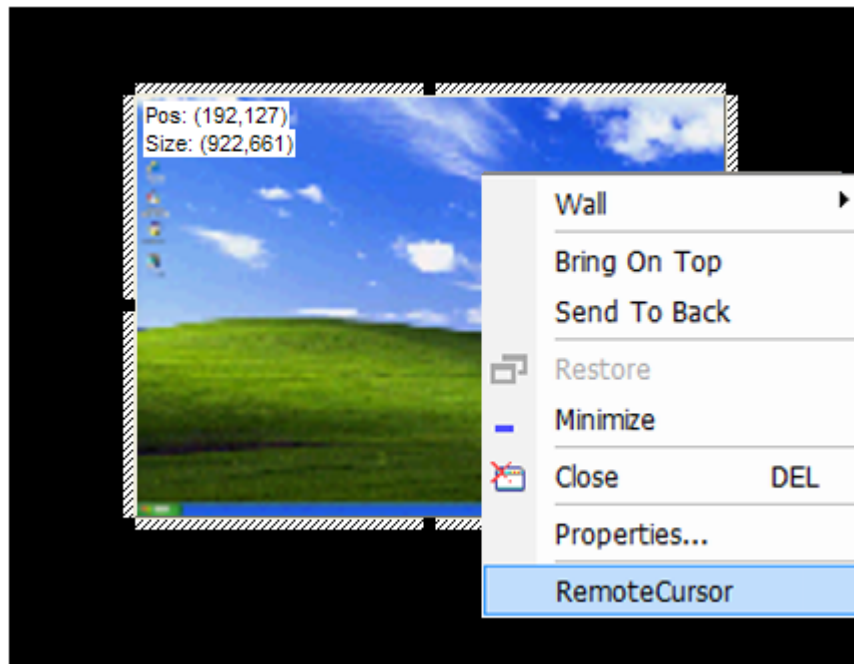

Figure 100 - DVI Remote Cursor (using CP from workstation)
- Controlling the wall using ControlPoint client on a workstation (refer to Figure 100).
3. Select **Remote Cursor**. Refer to Figure 100. (If the **Remote Cursor** menu item is disabled, enable it before proceeding.)